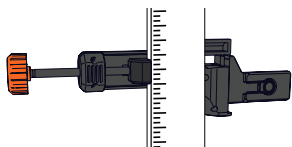

Figure 24
3. Press and hold the clamp release button to close the clamp knob onto the grade rod. Turn the clamp knob to further tighten the clamp until secure. (*Figure 24*)